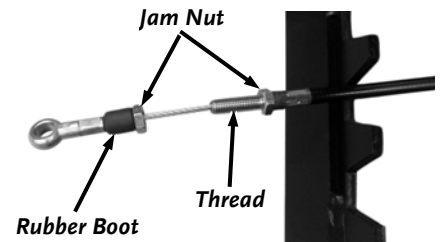

Figure 22
35. Pull the Rubber Boot off the threads of the both Height Adjust Cables and unscrew the outer Nut off the threads (**Figure 22**).